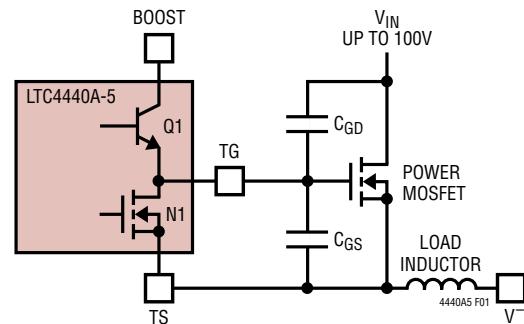

Figure 1. Capacitance Seen by TG During Switching
A simplified version of the LTC4440A-5's output stage is shown in Figure 1. The pull-down device is an N-channel MOSFET (N1) and the pull-up device is an NPN bipolar junction transistor (Q1). The output swings from the lower rail (TS) to within an NPN  $V_{BE}$  (~0.7V) of the positive rail (BOOST). This large voltage swing is important in driving external power MOSFETs, whose  $R_{DS(ON)}$  is inversely proportional to its gate overdrive voltage ( $V_{GS} - V_{TH}$ ).